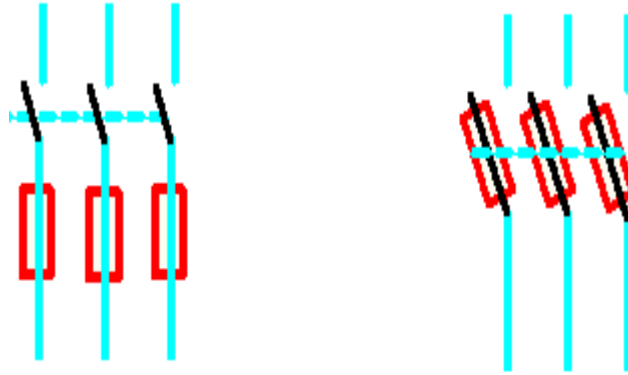

Fig.5.2 (a) Separate fuse switch unit and (b) fuse switch unit (combined)
- Figure 5.2 (a) shows separate fuse switch unit where, the switch and fuse two elements separately used in a electric circuit.
- In figure 5.2(b) Development of a new type of called, fuse switch unit, has led to the use of a modified power circuit.